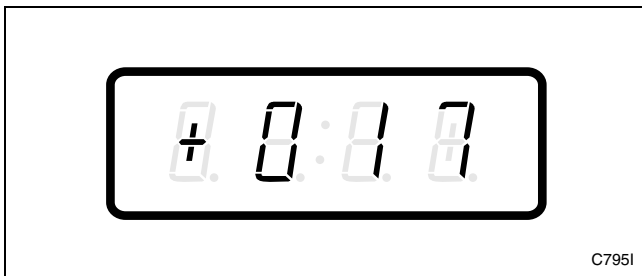

Figure 70
3. Press the DELICATES (+) or the COLD (-) keypad to scroll through the programmable options until “+017” appears in the VFD. Refer to *Figure 70*.